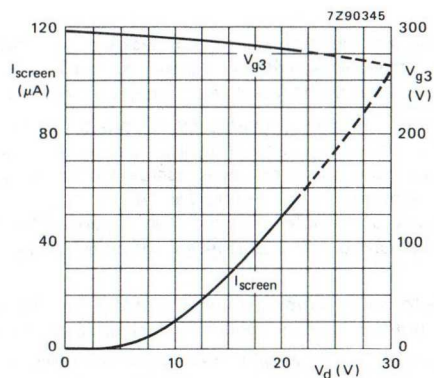

Fig. 5 Screen current (I_{screen}) and focusing voltage (V_{g3}) as a function of grid drive voltage (V_d); typical curves.
- An actual focus range of 30 V should be provided on the front panel. V_{g3} decreases with increasing grid drive (see also Fig. 5).
- Intensity control on the front panel should be limited to the maximum useful screen current (approx. 50 μ A; see also Fig. 5). It is to be adjusted either by the grid drive (up to 22 V) or for maximum acceptable line width. The corresponding cathode current or $I_{g2,g4}$ (up to 500 μ A) depend on the cut-off voltage and cannot be used for control settings.